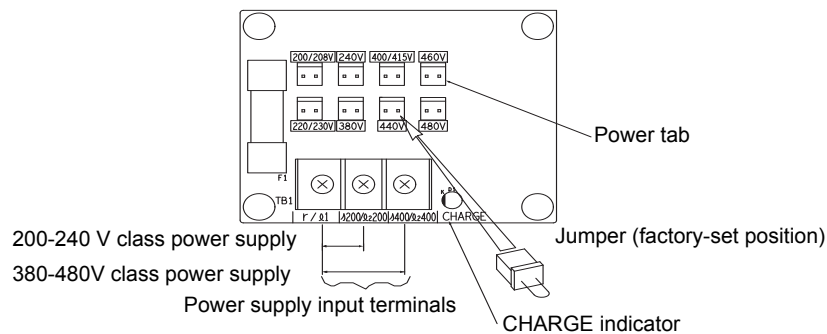

Fig 4.2 Power Supply Voltage Jumper
4. Insert the jumper at the position for the voltage supplied to the Drive (see *Fig 4.2*).